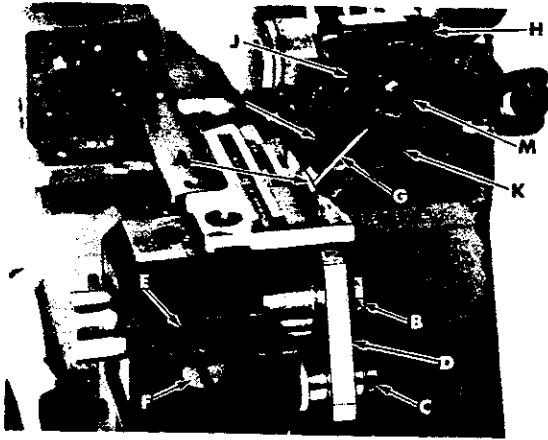

Fig. 16
At lowest position the front tip of upper knife cutting edge must extend $1/64$ - $1/32$ inch (.4 - .8mm) below cutting edge of lower knife. If adjustment is required, rotate handwheel to position upper knife driving arm at lowest position; with upper knife (G, Fig. 16) at lowest position of travel and while holding upper knife firmly against lower knife, adjust knife holder (H) left to right, to position front tip of upper knife cutting edge $1/64$ - $1/32$ inch (.4 - .8mm) below cutting edge of lower knife, then tighten screw (J).